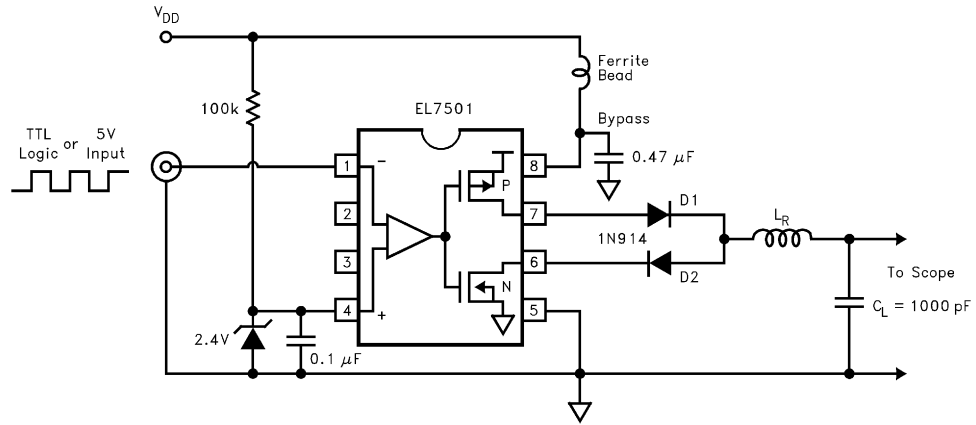

FIGURE 9. RESONANT GATE DRIVER
Resonant gate driver can be used to boost the gate voltage swing while increasing driver efficiency. In Figure 9, an EL7501 is configured with (2) external “ring” diodes and resonating inductor L_R . For tutorial purposes, the power MOSFET load was replaced by a 1000pF capacitor (C_L). The “ring” diodes are fast switching diodes capable of withstanding the 1 amp peak current, such as the 1N914. Standard de-coupling techniques are applied with 5V applied to V_{DD} , the circuit delivers +10V to -5V output. In “5V only” systems, sufficient output swing is available so as to eliminate the need for costly “logic level” power FETs, and provides below ground swing for superior turn-off.